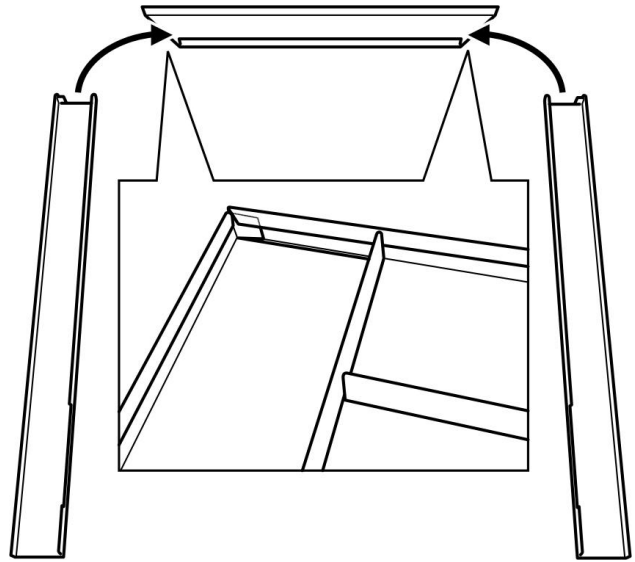

Figure 18. (Alisa and Anthem fascia only).
1. Lay the three fascia parts face down on a flat surface as in figure 18. Each side trim has a small tab at the top. Position the tab to the outside upper edge (See figure 18).
2. Locate the left-hand-side-trim tab into the slot / fold along the upper edge of the top trim (See figure 18).
3. Locate the right-hand-side-trim tab into the slot / fold along the upper edge of the top trim (See figure 18).